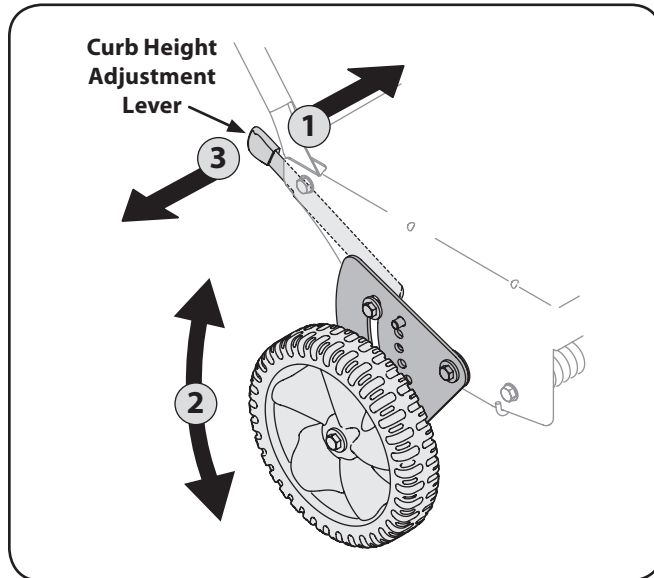

Figure 5-3
1. Lower the right, rear wheel by moving the curb height adjustment lever slightly to the left. See Figure 5-3.
3. Release the curb height adjustment lever to lock the wheel in position. See Figure 5-3.